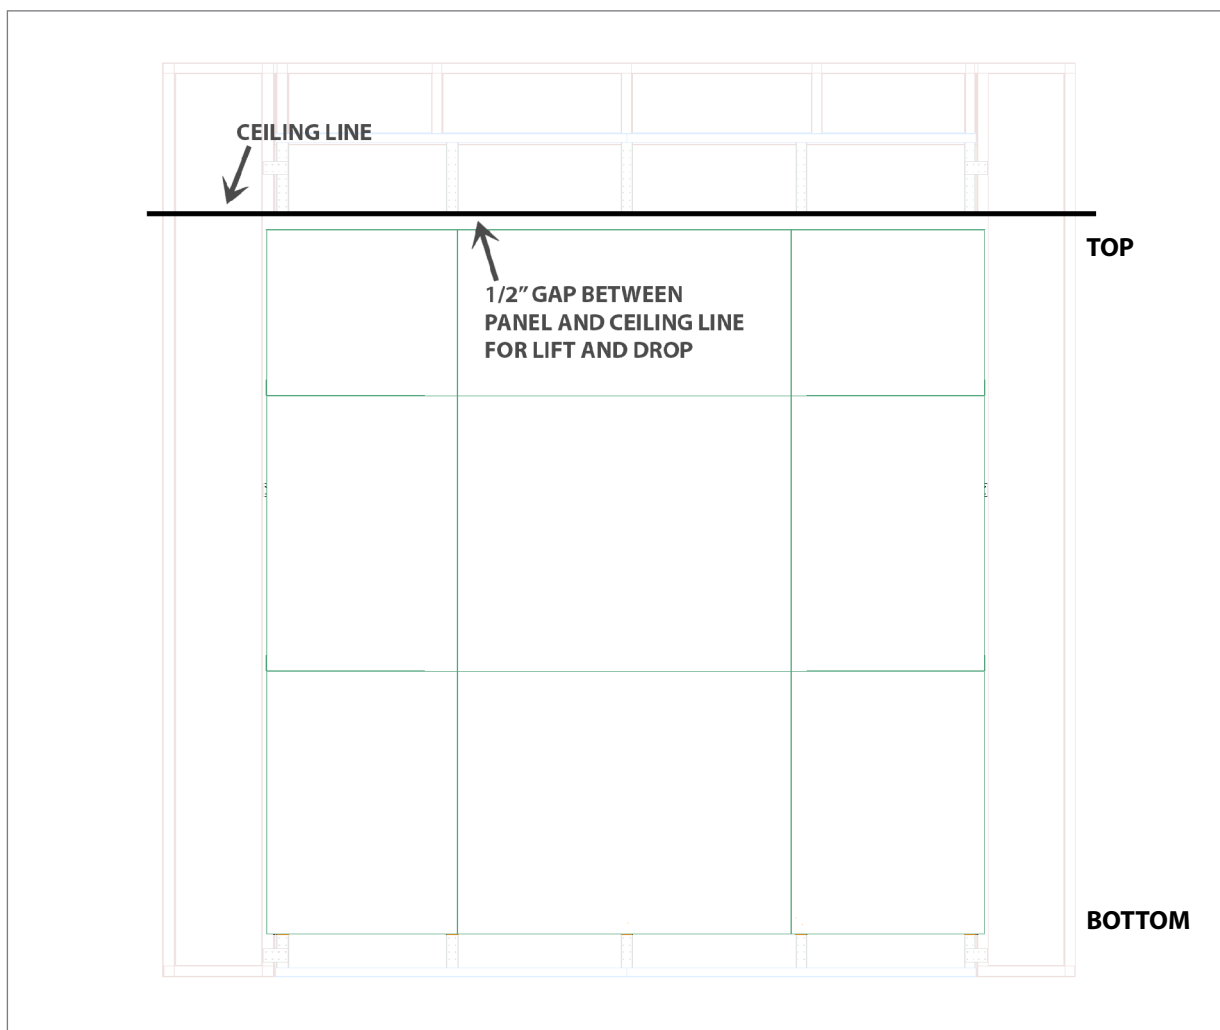

Figure 7: Below Ceiling Line Panel Installation and Finishes
1. Install panels from **BOTTOM** to **TOP**, and **LEFT** to **RIGHT**, via lift and drop using Z-clips (see **Figure 7**).